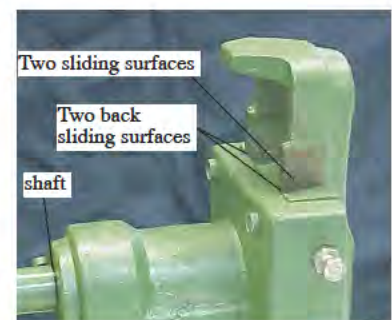

Figure 5. Oiling Locations
6. Put one or two drops of machine oil on the shaft, the side and back sliding surfaces as shown in Figure 5. Using too much could cause excess oil to drip down and get onto fabric.
7. Put one or two drops of machine oil on the side and back sliding surfaces as shown in Figure 5.